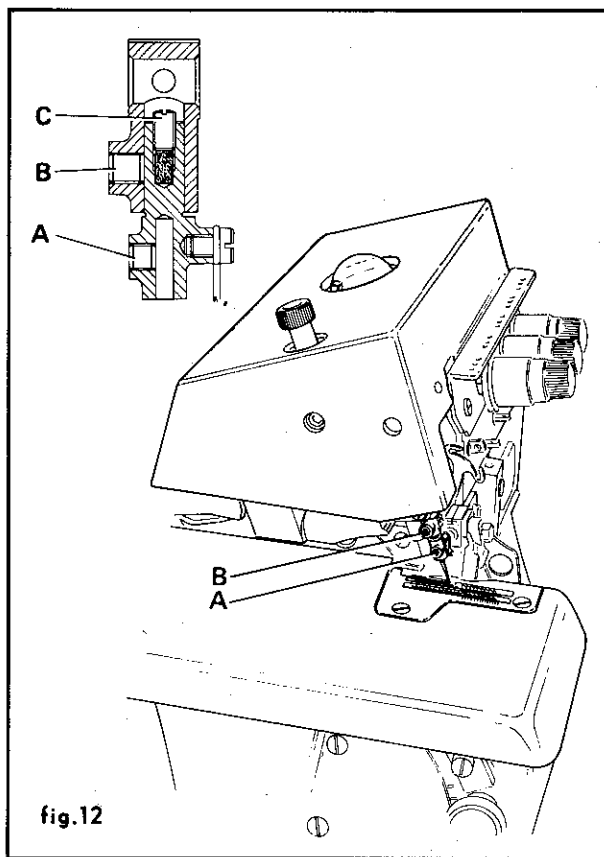

fig.12
SETTING ON AND ADJUSTING NEEDLE CLAMP (Fig. 12)
- Insert the needle down inside the clamp and fasten it with screw A (fig. 12)
- Set the clamp on slider B (fig. 12), taking care to position the needle with the scarf facing inwards on the machine
- Slacken screw B (fig. 12) and take off the clamp
- Turn adjusting screw C (fig. 12) which acts as stop to the clamp in the slider seat, tightening it to increase the needle height and slackening to decrease the height.